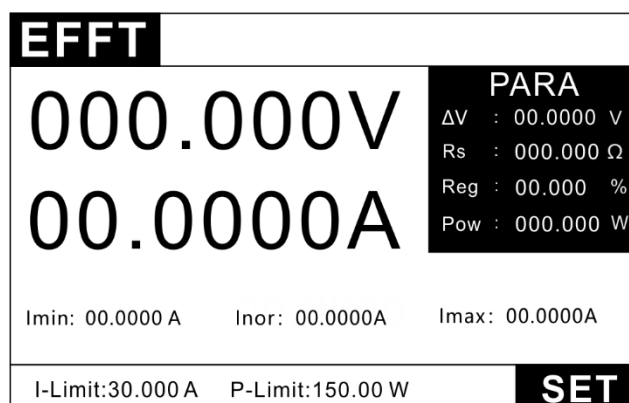

Figure 3.11 EFFT mode test interface
1. Press the key **MODE** to enter the mode selection page, press the up and down keys to select EFFT, and press the key **ENTER** to enter the EFFT test interface, as shown in Figure 3.11.
2. In Figure 3.11, press the key **SET** to enter the setting interface